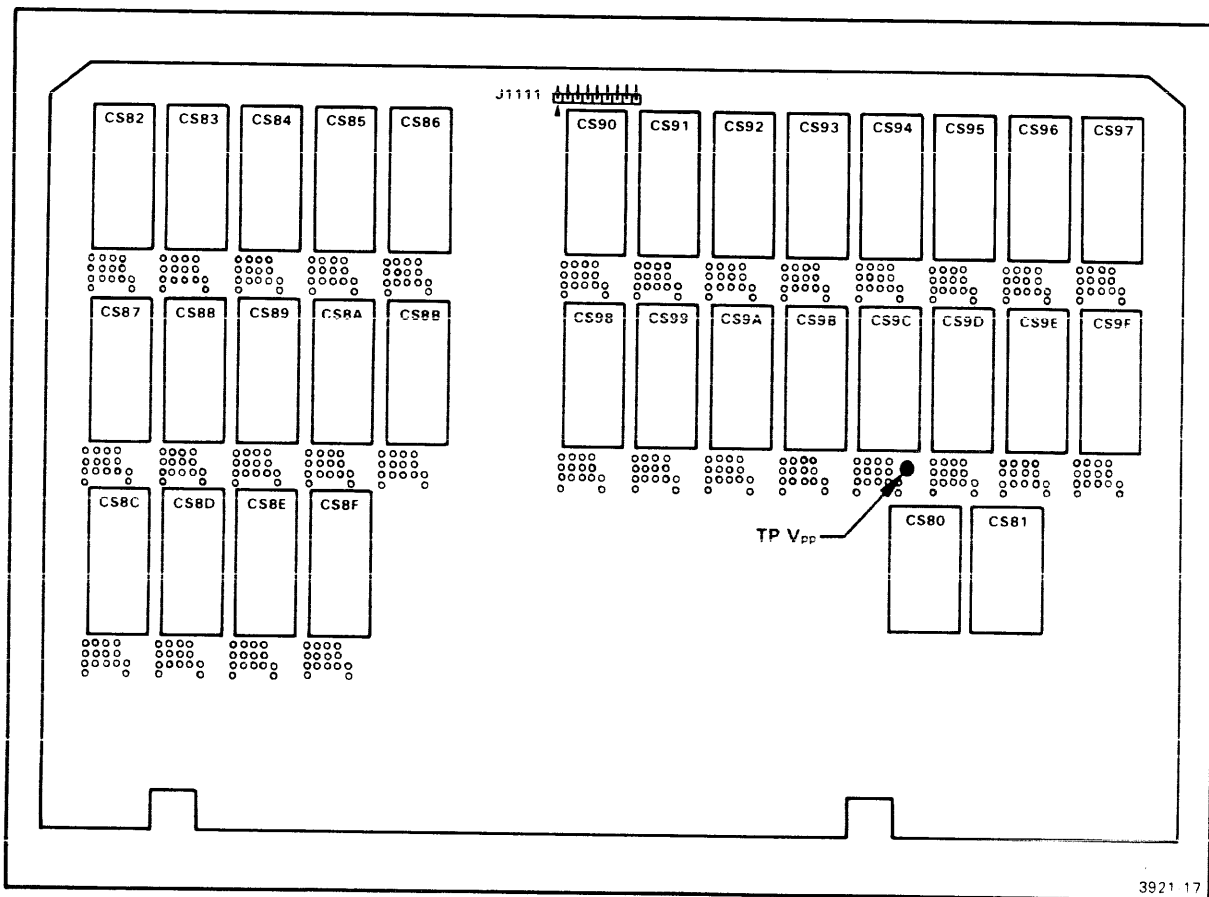

Fig. 3-8. System ROM Board socket locations.
- The Emulator Option ROM should be installed in the sockets labeled CS82 through CS8B as shown in Fig. 3-8 (circuit numbers U1010 through U1070 and U3010 through U3070 on the System ROM Board).
- Install the PROM Programmer Option ROM in locations CS90 and CS91 as shown in Fig. 3-8 (circuit numbers U1110 and U1120 on the System ROM Board).
- The Communications Option (COMM Option) ROM should be installed in location CS8F as shown in Fig. 3-8 (circuit number U4060 on the System ROM Board).
- Install the Trigger Trace Analyzer Option ROM in locations CS8E, CS8D and CS8C as shown in Fig. 3-8 (circuit numbers U4050, U4030 and U4010 on the System ROM Board).
Figure 3-8 shows the locations and the assigned labels for the 32 ROM sockets on the System ROM Board.